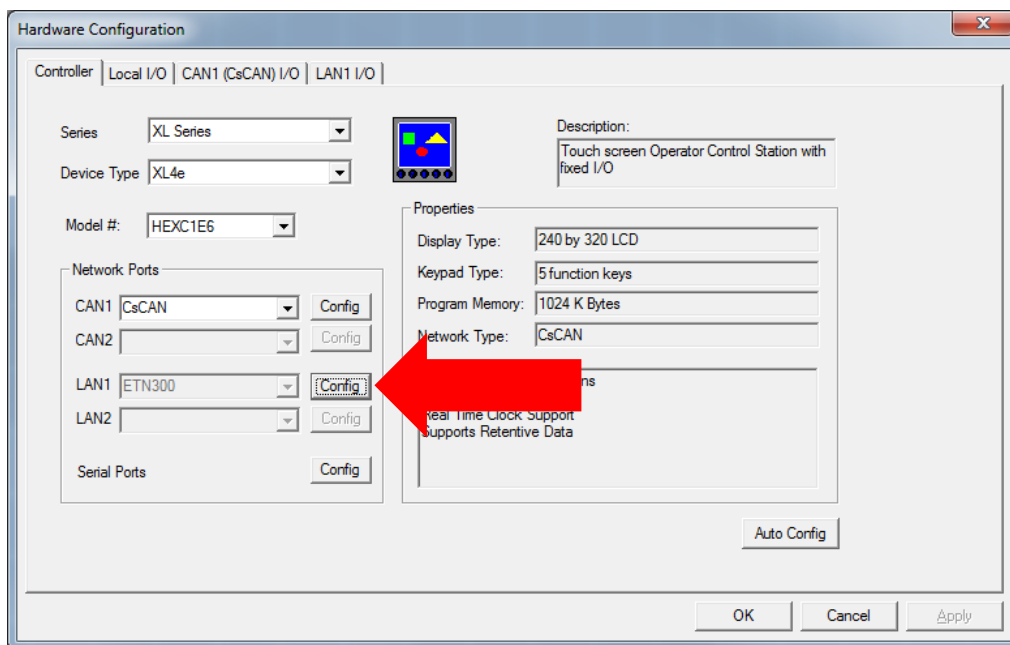

Figure 7.1 - Hardware Configuration Dialog
1. On the main Cscape screen, select the **Controller** menu and its **Hardware Configuration** sub-menu to open the Hardware Configuration dialog (Figure 7.1).